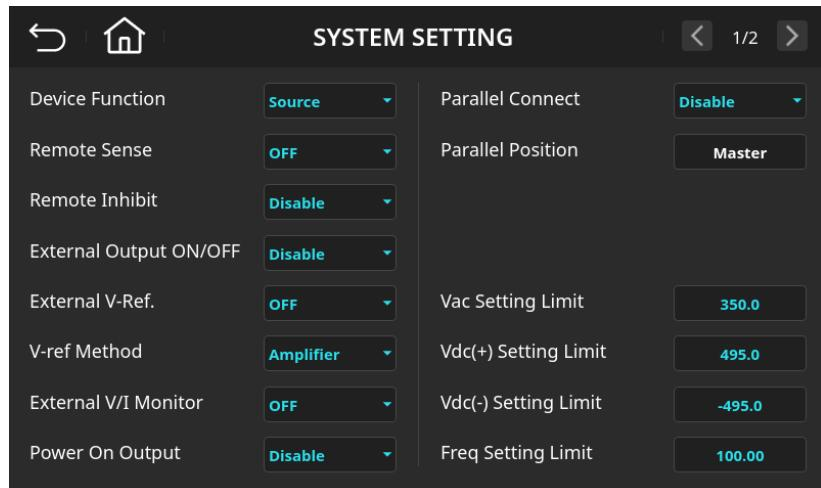

Figure 6-14 System Function Settings Page (Freq Setting Limit = 100.00)
2. Enter 1, 0, 0, then press the Enter key **Enter**; the value will update to "100.00", as shown in Figure 6-14.